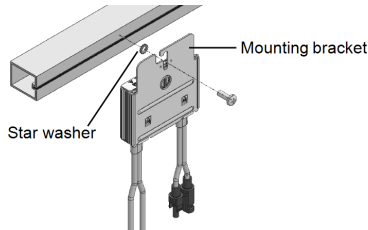

Figure 4: Power optimizer installation and grounding using a star washer
1. Determine the power optimizer mounting location and use the power optimizer mounting brackets to attach the power optimizer to the support structure (See *Figure 4*). It is recommended to mount the power optimizer in a location protected from direct sunlight. For frame-mounted power optimizers follow the instructions supplied with the optimizers, or refer to https://www.solaredge.com/sites/default/files/installing_frame_mounted_power_optimizers.pdf.